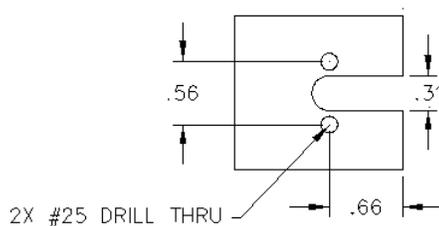

Figure 4: Recommended Mounting Plate Dimensions
1. Drill two #25 holes 9/16 inches apart, and a 0.31 inch diameter slot in the mounting plate (see Figure 4.). **Note:** The plate should be a thickness of 1/8 inch or less.